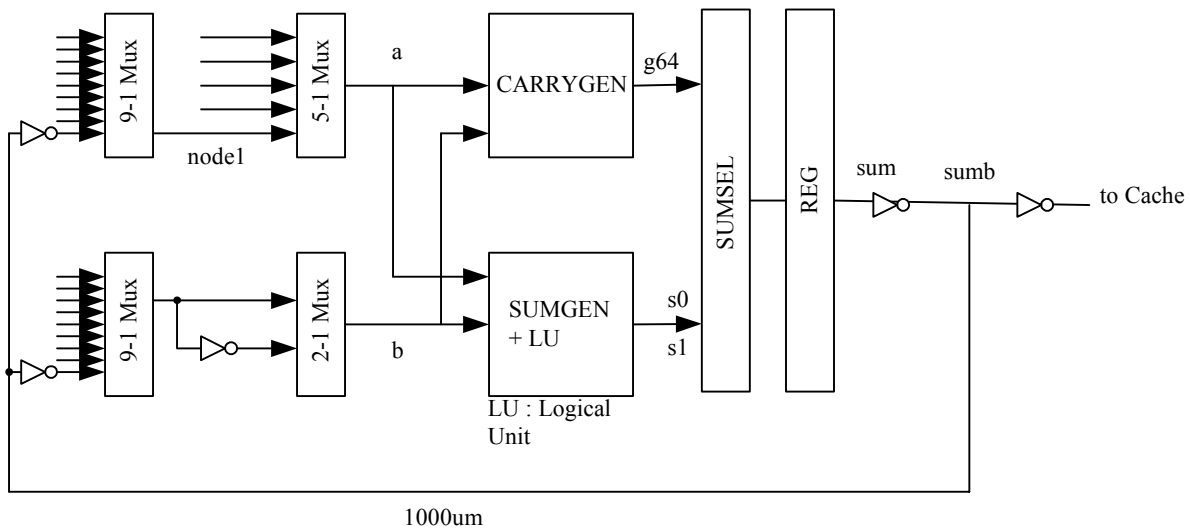

Figure 1. ALU high-level block diagram.
The high-level block diagram of a high-performance ALU (as used in Pentium 4) is shown in Figure 1.
- Arithmetic block: this block is used to perform arithmetic operations such as addition, subtraction and comparison. The core of the arithmetic block is an adder. In the architecture presented in Figure 1 the adder uses carry look-ahead and sum-select techniques (the blocks labeled CARRYGEN, SUMGEN and SUMSEL).
- Logic block: this block is used to perform simple bitwise logic operations such as AND (masking), OR and XOR (the block labeled LU in Figure 1)
- Multiplexers: these blocks are used to select the appropriate inputs for the arithmetic and logic blocks. Usually more than two buses arrive at the inputs of the ALU (9 buses in Figure 1, selected by the 9:1 MUXes). Sometimes these multiplexers are used to perform some simple logic operations. The 5:1 MUX is a programmable shifter: its inputs contains shifted versions of the 9:1 MUX output. The 2:1 MUX can be programmed to invert one of the operands (this can be used to execute a subtraction using just an adder).